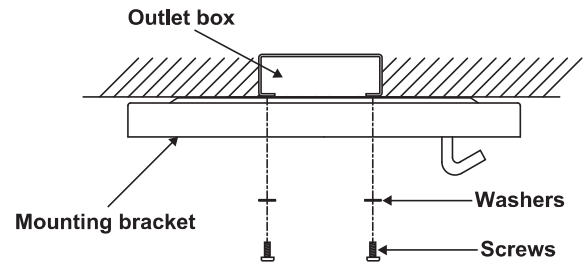

Figure 4
Step 2. Attach the mounting bracket to the outlet box using the two screws and washers provided with the outlet box. For best performance be sure the mounting bracket is level and secured firmly against the ceiling. You may need to insert additional washers (not provided) between the outlet box and mounting bracket to make it level. (Fig. 4).